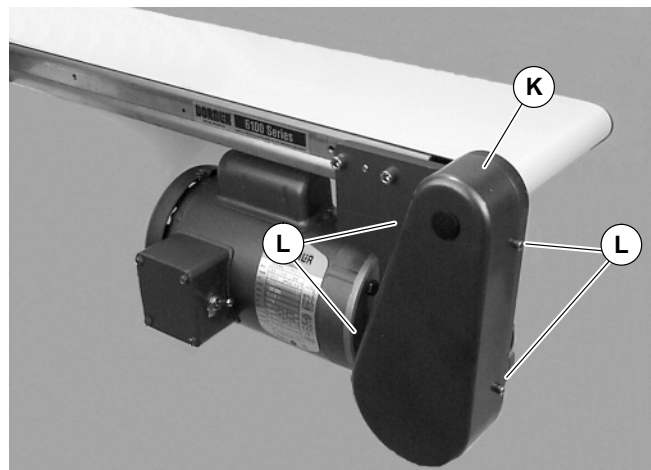

Figure 11
6. Wrap timing belt (P) around driven pulley (M) and drive pulley (J). Install driven pulley (M) onto conveyor shaft.
9. Install cover (K of Figure 11) with four (4) screws (L). Tighten screws to 4 Nm.
1. Remove four (4) screws (L of Figure 11) and remove cover (K).
4. Install cover (K of Figure 11) with four (4) screws (L). Tighten screws to 4 Nm.
6. Install cover (K of Figure 11) with four (4) screws (L). Tighten screws to 4 Nm.